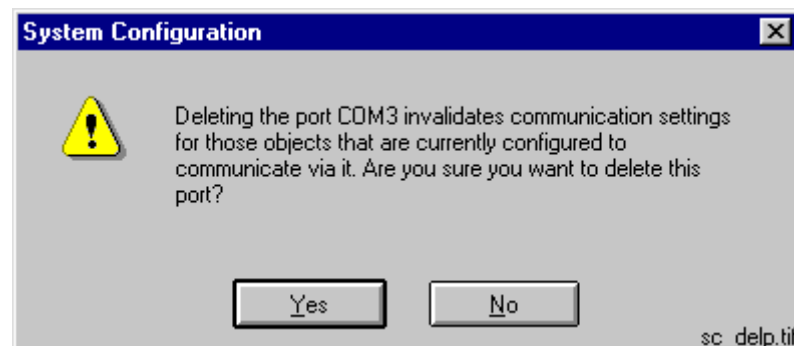

Fig. 5.5.4.4.-1 Confirm to delete the selected serial port
3. When prompted to confirm the deletion, click Yes to delete the serial port (see Fig. 5.5.4.4.-1). Otherwise click No to leave the serial port intact.